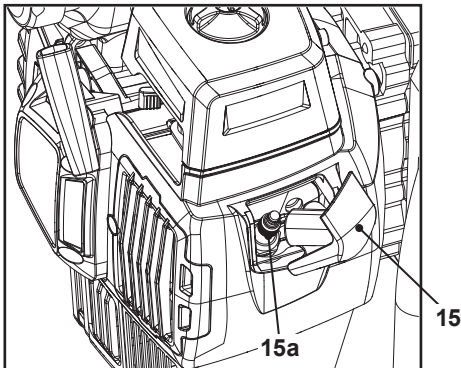

Fig. 13
1. Disconnect the spark plug connector (15) (Fig. 13).